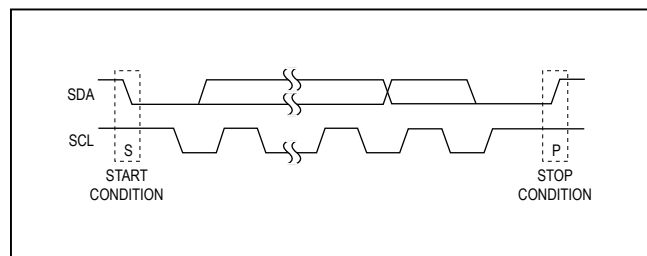

Figure 2. Start and Stop Conditions
addresses plus R/ $\bar{W}$  bits, one or more data bytes, and finally a STOP condition (Figure 2).
Both SCL and SDA remain high when the interface is not busy. A master signals the beginning of a transmission with a START (S) condition by transitioning SDA from high to low while SCL is high. When the master has finished communicating with the slave, the master issues a STOP (P) condition by transitioning SDA from low to high while SCL is high. The bus is then free for another transmission (Figure 2).